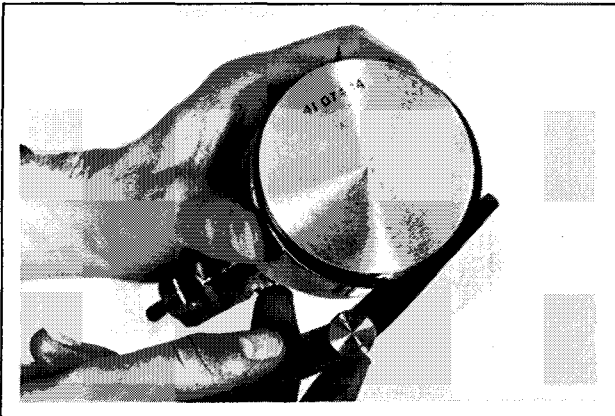

Figure 10-14. Measuring Piston Ring Side Clearance.
4. After installing the new compression (top and middle) rings on piston, check piston-to-ring side clearance. Maximum recommended side clearance is **.006"**. If side clearance is greater than **.006"**, a new piston must be used. Refer to Figure 10-14.